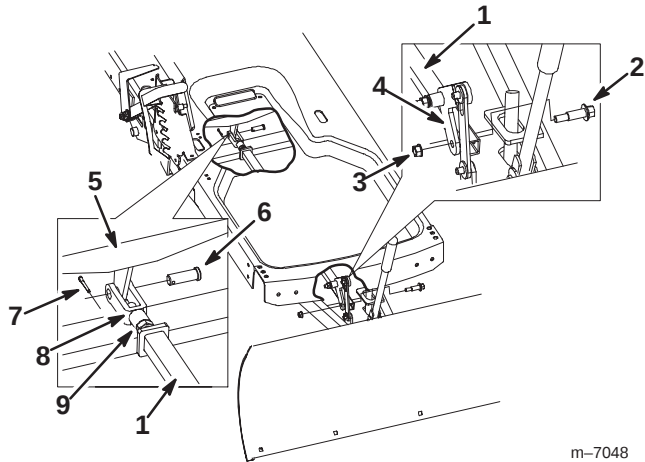

Figure 15
1. Move the lift rod into position beneath the traction unit and above the frame assembly (Fig. 15).
2. Attach the lift rod to the pivot arm of the lift mount using the shoulder bolt and flange nut (3/8 inch) as shown in figure 15.
3. Line up the holes in the lift rod yoke and the lift arm (Fig. 15).
5. Install the lift rod to the lift arm using a clevis pin and cotter pin (3/4 inch) as shown in figure 15.